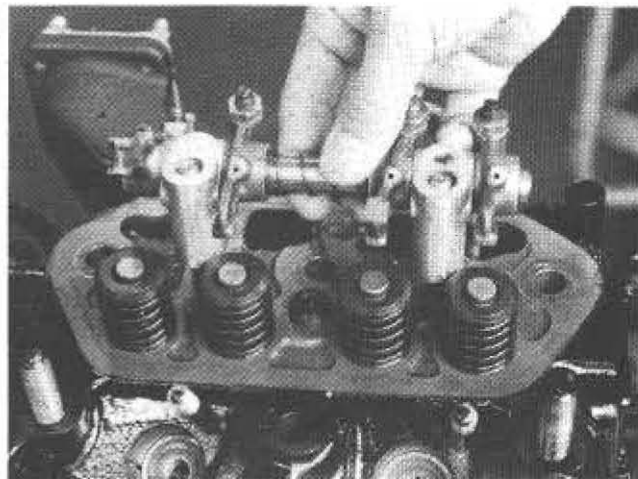

Fig. 2-2 Removing Rocker Arm Shaft Assembly
10. Remove rocker arm shaft assembly (Fig. 2-2). Loosen the bolts in progression.